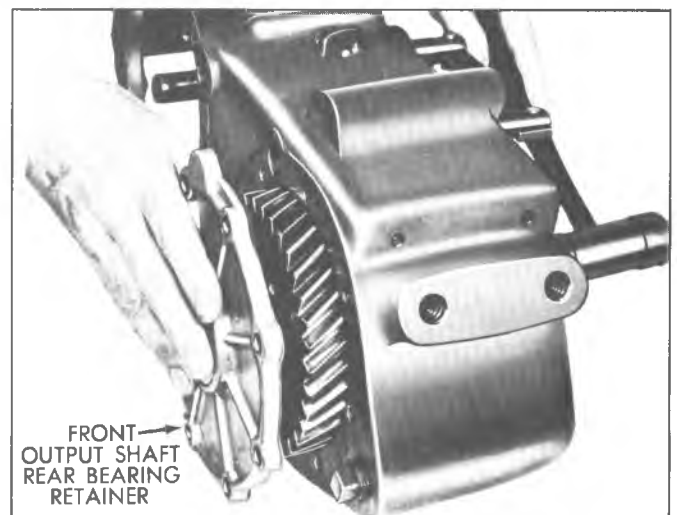

Fig. 4C-Removing Front Output Shaft Rear Bearing Retainer
4. Tap on output shaft with a soft hammer (Fig. 4C) and remove shaft, gear assembly, and rear bearing retainer from case.